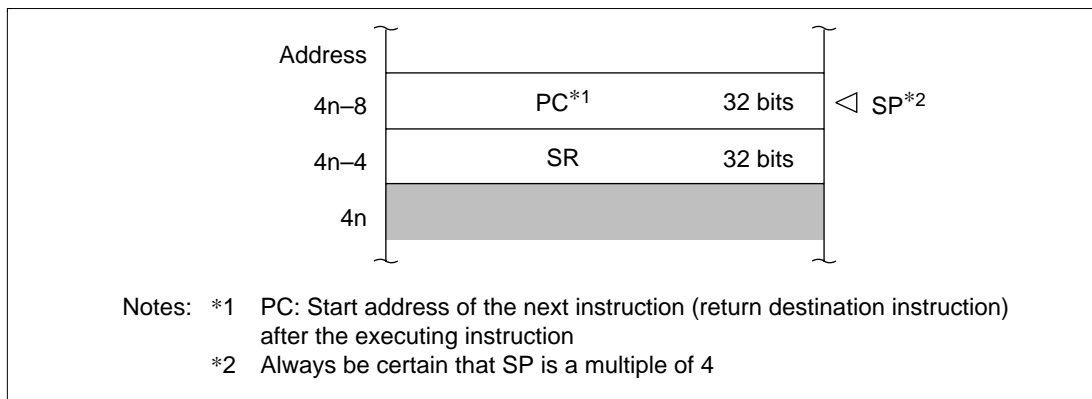

Figure 6.4 Stack after Interrupt Exception Processing
3. The interrupt controller compares the priority level of the selected interrupt request with the interrupt mask bits (I3–I0) in the CPU's status register (SR). If the request priority level is equal to or less than the level set in I3–I0, the request is ignored. If the request priority level is higher than the level in bits I3–I0, the interrupt controller accepts the interrupt and sends an interrupt request signal to the CPU.
5. The CPU detects the interrupt request sent from the interrupt controller when it decodes the next instruction to be executed. Instead of executing the decoded instruction, the CPU starts interrupt exception processing (figure 6.4).
7. The priority level of the accepted interrupt is copied to the interrupt mask level bits (I3–I0) in the status register (SR).
8. When the accepted interrupt is sensed by level or is from an on-chip peripheral module, a high level is output from the $\overline{\text{IRQOUT}}$ pin. When the accepted interrupt is sensed by edge, a high level is output from the $\overline{\text{IRQOUT}}$ pin at the point when the CPU starts interrupt exception processing instead of instruction execution as noted in (5) above. However, if the interrupt controller accepts an interrupt with a higher priority than one it is in the midst of accepting, the $\overline{\text{IRQOUT}}$ pin will remain low level.
Figure 6.4 shows the stack after interrupt exception processing.